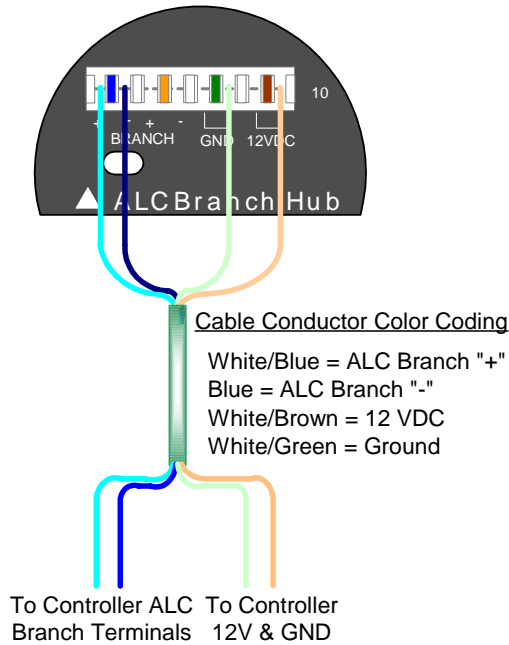
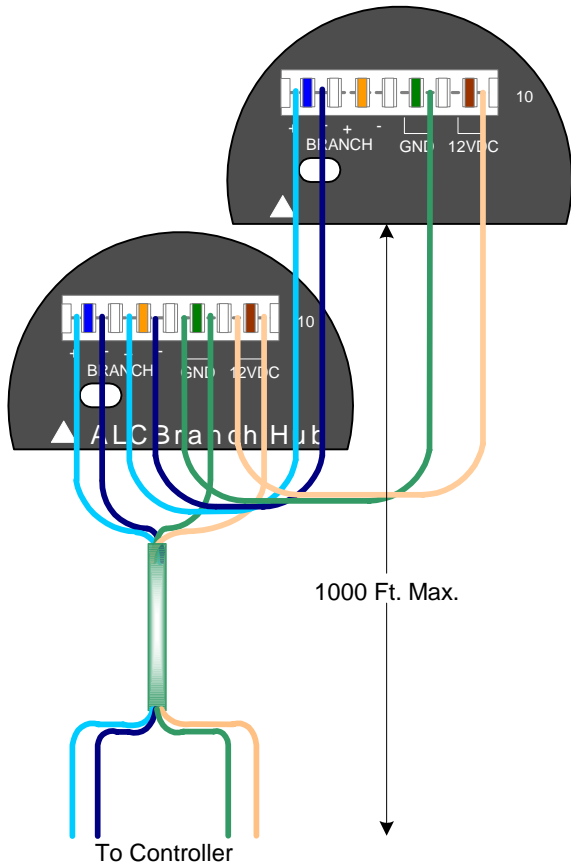
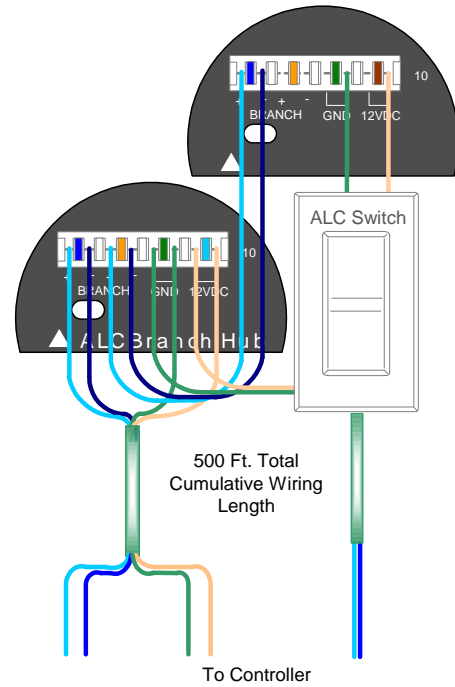

Figure 3. Connections to Lighting Controller
Figure 5. Wiring Cascaded Hubs
Figure 6. Parallel Switch Wiring Limitation
The total cumulative length of all cables connecting ALC Dimmers, Relay Switches, Scene Switches, Program Switches and I/O Modules to the ALC Branch Hub should not exceed 500 feet. Connection Point 10 provides connections for a single category 3, 5 or 5E cable that is homerun directly to the lighting controller (see **Figure 3**). Connection Point 10 provides additional connections for cascading additional Hubs (see **Figure 5**). The maximum cable distance between the ALC Branch Hub and the lighting controller should not exceed 1000 ft. Up to four (4) Hubs may be connected to each controller ALC branch. The wiring distance of each Hub from the controller should not exceed 1000 ft. If ALC switches are connected directly in parallel with the Hub to the controller, the total cumulative branch wiring length should not exceed 500 ft. Refer to **Figure 6**.